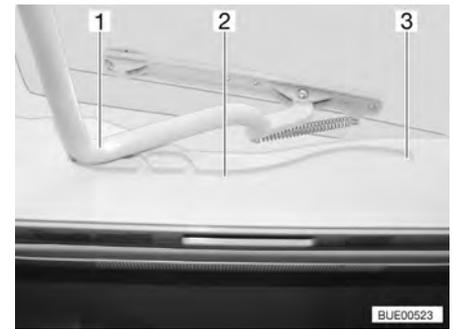

Fig. 65 Heki skylight, guide
- Pull the bar (Fig. 65,1) in the guides (Fig. 65,2) to the rearmost position (Fig. 65,3).
- Use both hands to push the bar (Fig. 65,1) slightly upwards.
- Pull the bar in the guides (Fig. 65,2) to the desired position.